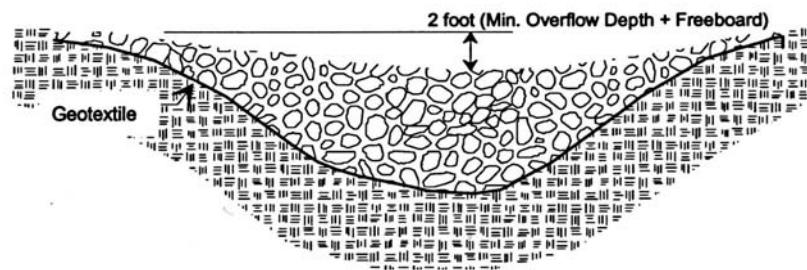

Figure 5.37 Head-on View of Rock Dam, Filter Fabric and Abutments
- **Basin Requirements:** Provide large surface area for high trapping efficiency; sediment storage capacity of 1800 feet3/acre disturbed (see Fig. 5.37).